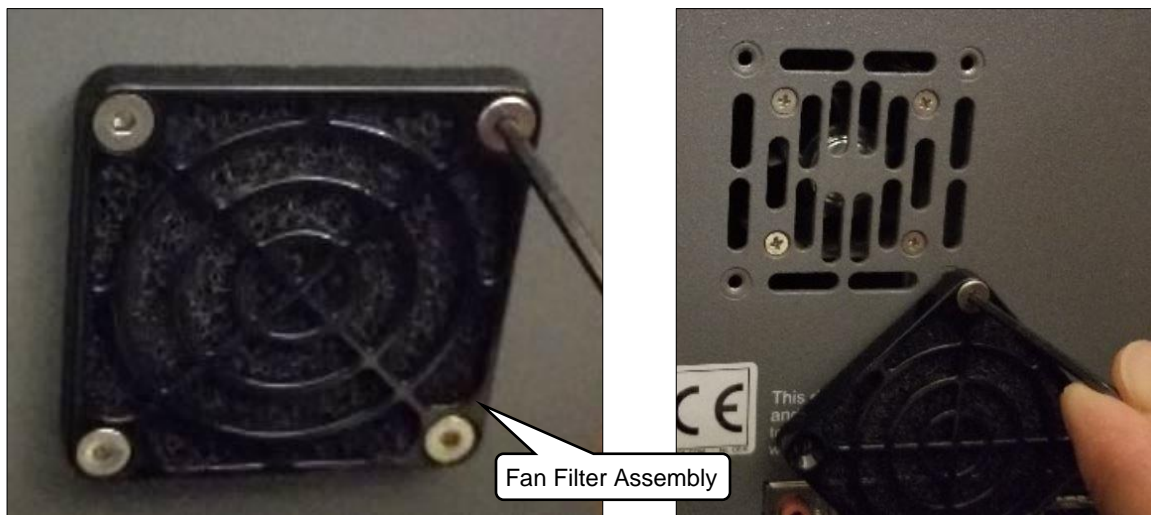

Figure 5: Removing Fan Cover Assembly for Filter Replacement
3. Using a 2.5 mm hex wrench, remove the four screws holding the fan cover assembly to the back panel (Figure 5).